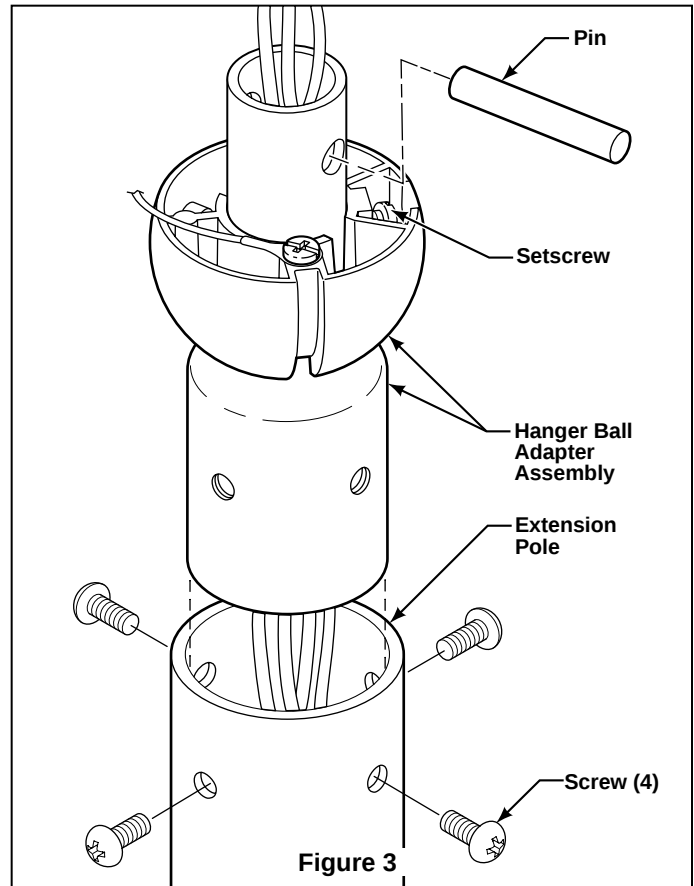

Figure 3
6. Route wires and safety cable through the Hanger Ball Adapter Assembly. (Figure 3)
7. Assemble the Hanger Ball Adapter Assembly to top of the Extension Pole with the 4 screws supplied with the fan. (Figure 3)
6. NOW, securely and fully tighten the lag bolt in the center of the Hanger Bracket while being careful not to allow the Hanger Bracket to rotate. (Figure 3)
5. Carefully lift the fan assembly and seat the extension pole/hanger ball/horizontal tube assembly on the hanger bracket that was just attached to the ceiling joist. Be sure the groove in the ball is lined up with tab on the hanger bracket. (Figure 3)
6. Attach the safety cable to ceiling support cable. Slide cable clamp onto safety cable (from fan). Place the end of cable through the loop of ceiling support cable. Pull as much cable through loop as possible. Feed end of cable into clamp hole and firmly tighten screw (Figure 3). Cut off excess safety cable.